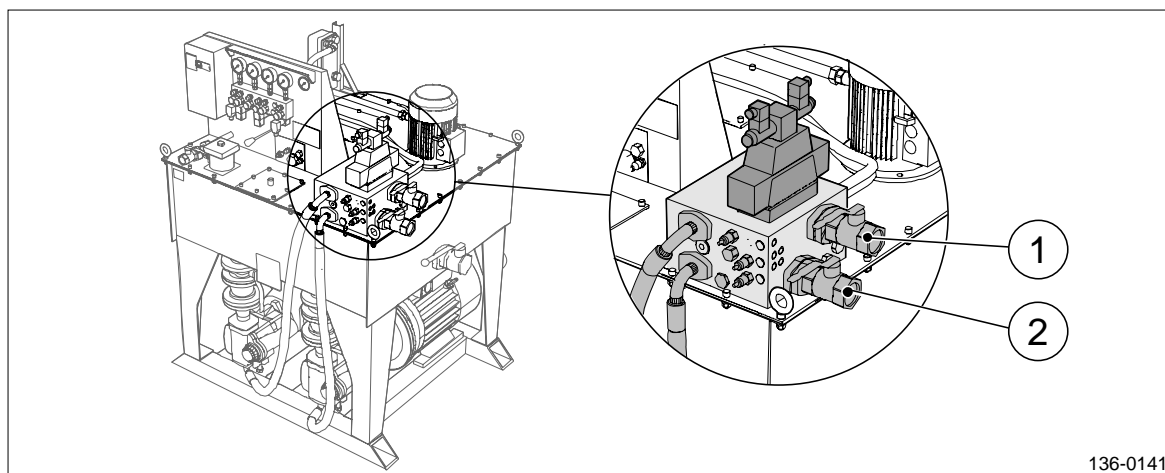

Figure 2 Hydraulic power pack unit.
5. Close the shut-off valve V40 (pos 1, figure 2).